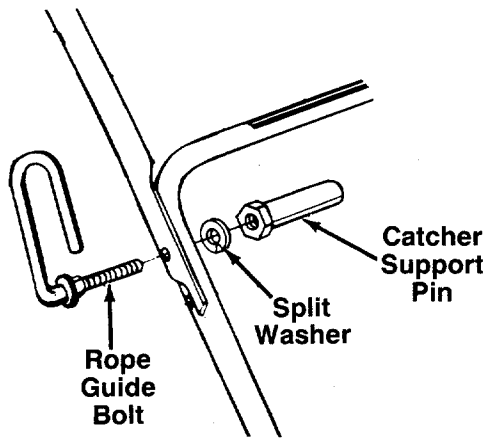

FIGURE 1.
1. Slip the starter rope out of the rope guide bolt (located on the handle). The upper handle of your mower is secured with the rope guide bolt, curved head bolt, two split washers and two hex nuts. Remove the hex nuts and replace with the two catcher support pins (Ref. 9) provided in this kit. See figure 1.